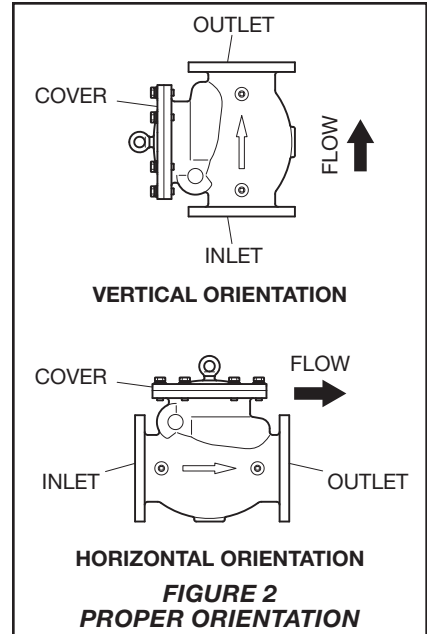

FIGURE 2
- Installation can be in a horizontal position (with cover in the upward position), or vertical position (upward flow only) as shown in Figure 2.
- Each vertically installed valve must be positioned with the flow in the upward direction as shown in Figure 2.
- Each horizontally installed valve must be positioned with the cover facing up as shown in Figure 2.